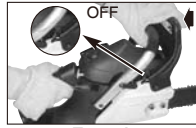

Fig. 7A
1. The CHAIN BRAKE is DISENGAGED (chain can move) when BRAKE LEVER IS PULLED BACK AND LOCKED. Be sure the chain brake latch is in the OFF position. (Fig. 7A)